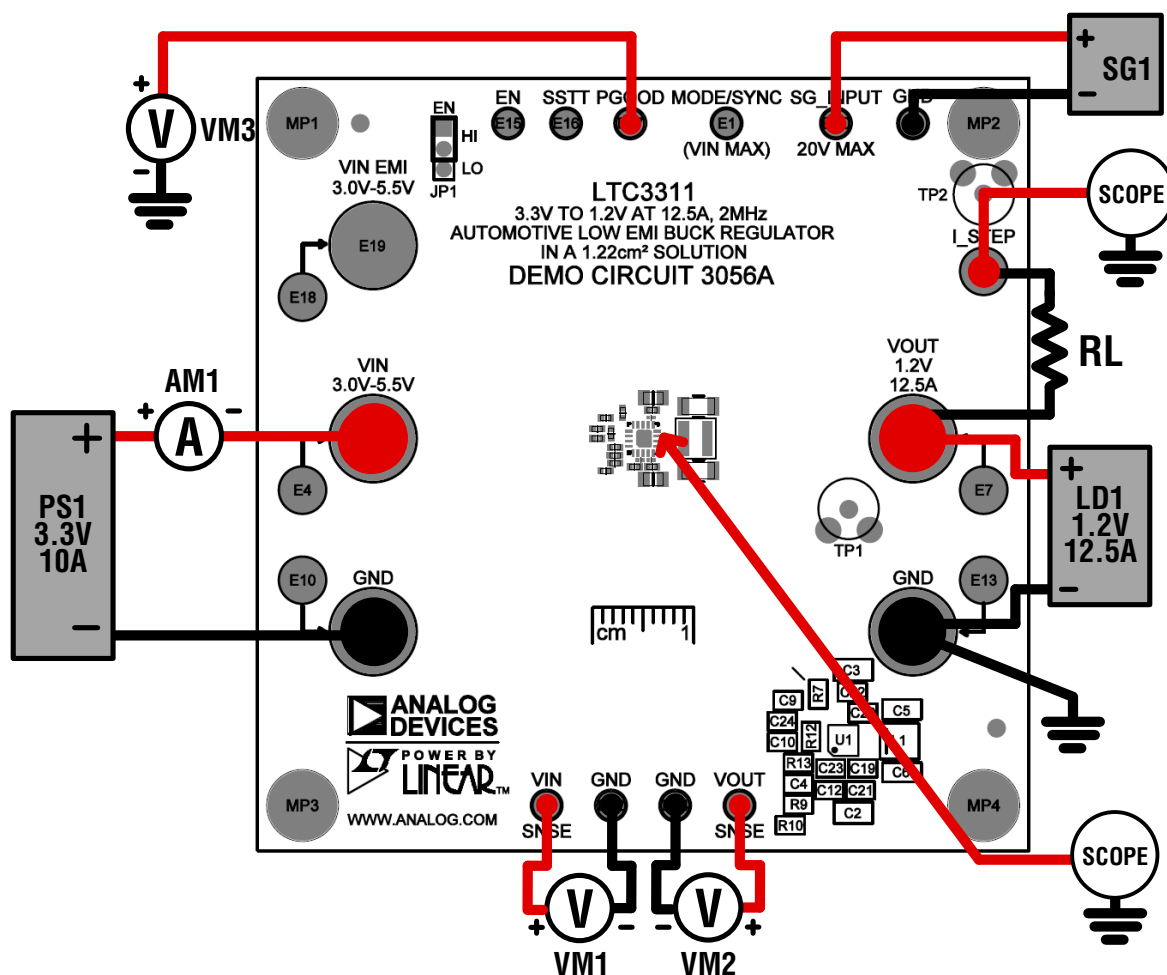
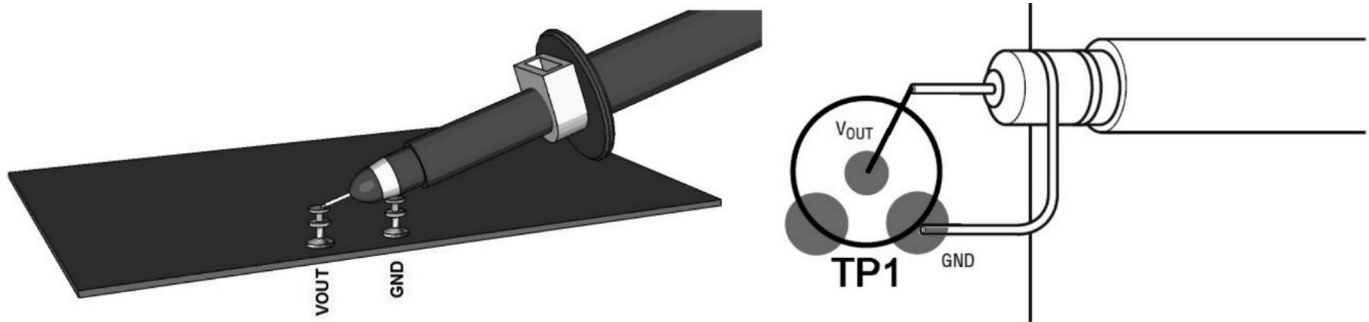

Figure 2. Test Setup for DC3056A Demo Board
Figure 3. Technique for Measuring Output Ripple and Step Response
Refer to Figure 2 for the proper measurement equipment setup and follow the procedure below.
NOTE: For accurate V_{IN} , V_{OUT} and efficiency measurements, measure V_{IN} at the V_{IN} SNSE and GND turrets, and measure V_{OUT} at the V_{OUT} SNSE and GND turrets, as illustrated as VM1 and VM2 in Figure 2. When measuring the input or output ripple, care must be taken to avoid a long ground lead on the oscilloscope probe. Measure the output voltage ripple by touching the probe tip directly across the output turrets or to TP1 as shown in Figure 3.
3. Set power supply PS1 current limit to 10A. Set the electronic load LD1 to CC mode and 0A current. Slowly increase PS1 to 1V. If PS1 output current reads less than 20mA, increase PS1 to 3.3V. Verify that VM1 reads 3.3V and VM2 reads 1.2V. Check V_{M1} , VM2, VM3, PS1 output current and LD1 input current. Connect an oscilloscope voltage probe as shown in Figure 3. Set channel to AC-coupled, voltage scale to 20mV and time base to 10 μ s. Check V_{OUT} ripple voltage. Verify that PGOOD voltage is above 3V.
7. To test the transient response with a base load, add the desired resistor to produce a minimum load between V_{OUT} and I_{STEP} turrets (R_L shown on Figure 2). Note that the total load resistance will be R_L plus R_{16} (50m Ω). Adjust a signal generator with a 10ms period, 10% duty cycle and an amplitude from 1V to 2V to start.